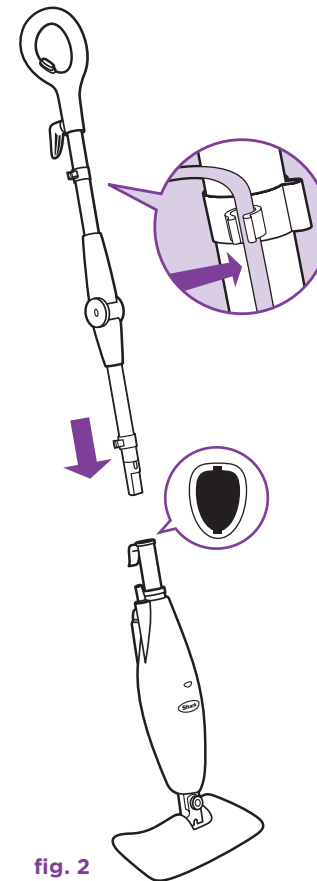

fig. 2
- 3** Insert the assembled handle piece into the steam mop base. Push the tube base together until you hear a click. (**fig. 2**)
⚠ IMPORTANT: Unplug the **Light & Easy™** Steam Mop before filling the water tank with water. (fig. 2)